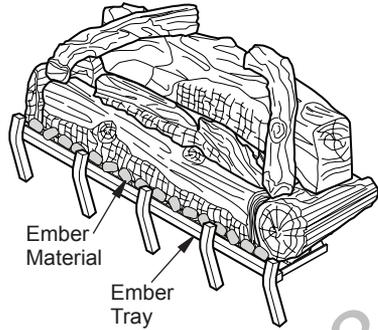

Figure 60 - Applying Ember Material
- Break apart about quarter sized pieces and place a single layer along full length of ember tray to hide bottom edge of base log (see Figure 60).